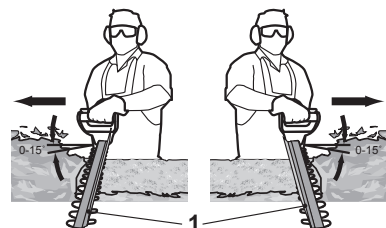

Fig. 3
2. Fit the sweeper (1) and make sure that its orientation is suitable for use as described in Fig. 3.